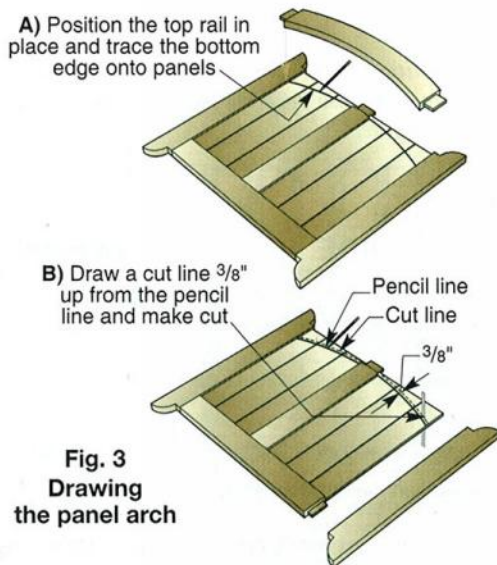

Fig. 3
4 MORTISE THE STILES (A) FOR THE TENONS ON THE BOTTOM RAIL (B) AND TOP RAIL (C) where shown in **Figure 3** using a hollow-chisel mortiser. Add $\frac{1}{8}$ " to the depths to allow for glue. If you don't own a mortiser, use your drill press and a $\frac{1}{2}$ "-diameter Forstner bit. Pare the opening with a chisel, establishing clean, square corners.
6 CUT THE PANELS TO MATCH THE CURVED TOP BY ASSEMBLING THE GATE FRAME, MINUS THE TOP RAIL (C). Insert the panels (E) and (F) into the grooves as shown in **Figure 1**. Next, position the top rail (C) as shown in **Figure 3**. Make a light pencil line along the bottom edge of the top rail. Mark 3/8" up from that previous line and, aligning the top with these marks, scribe a second line parallel to the first. Now remove the rail